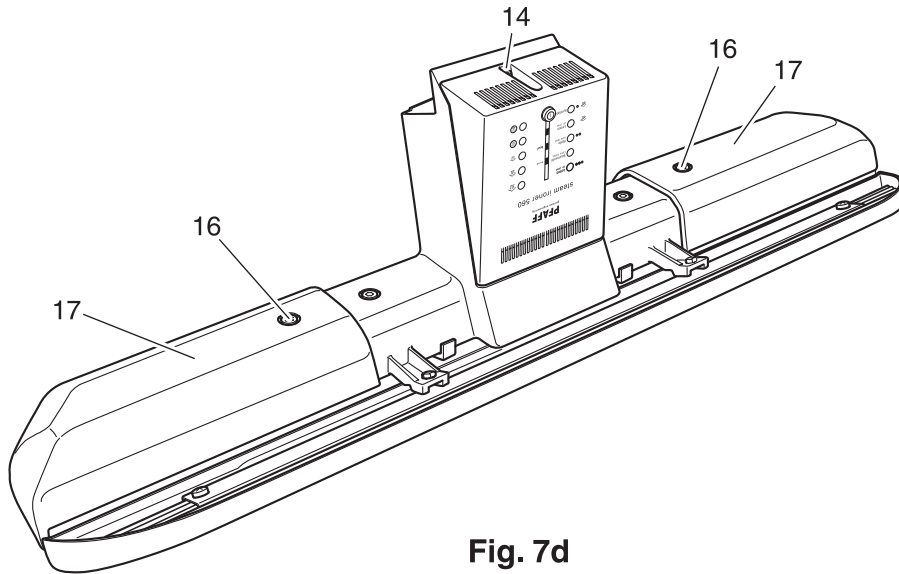

Fig. 7d
- Lay heating shoe stand with heating shoe face-down (fig. 7d).
- Remove screws 16 (fig. 7d).